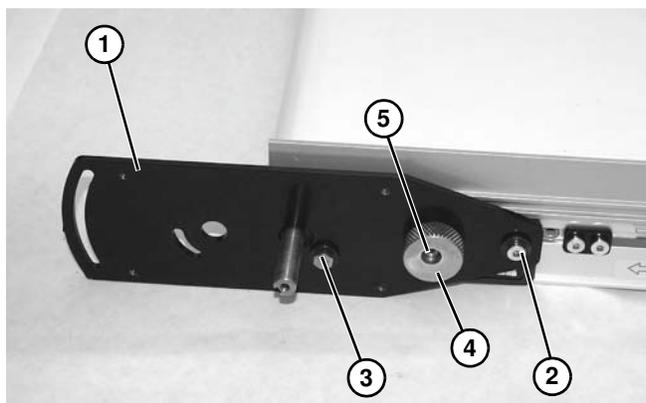

Figure 17
1. Install series drive plate (Figure 17, item 1) onto drive end of driven conveyor.
2. Install washer and screw (Figure 17, item 2). Do not tighten.
3. Install washer and screw (Figure 17, item 3). Do not tighten.
4. Install cam knob (Figure 17, item 4) with screw (Figure 17, item 5). Do not tighten.